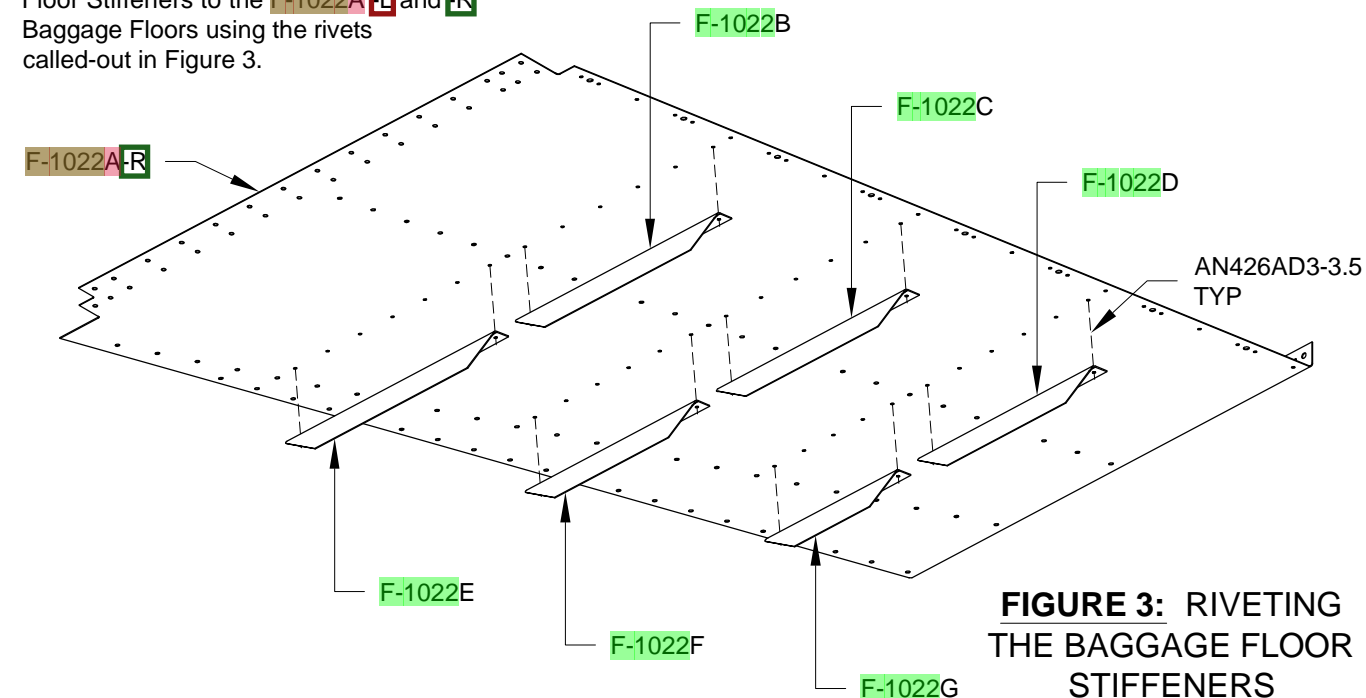

FIGURE 3: RIVETING THE BAGGAGE FLOOR STIFFENERS
Step 10 (Standard Kit): Rivet the **F-1022** Baggage Floor Stiffeners to the **F-1022A-L** and **R** Baggage Floors using the rivets called-out in Figure 3.